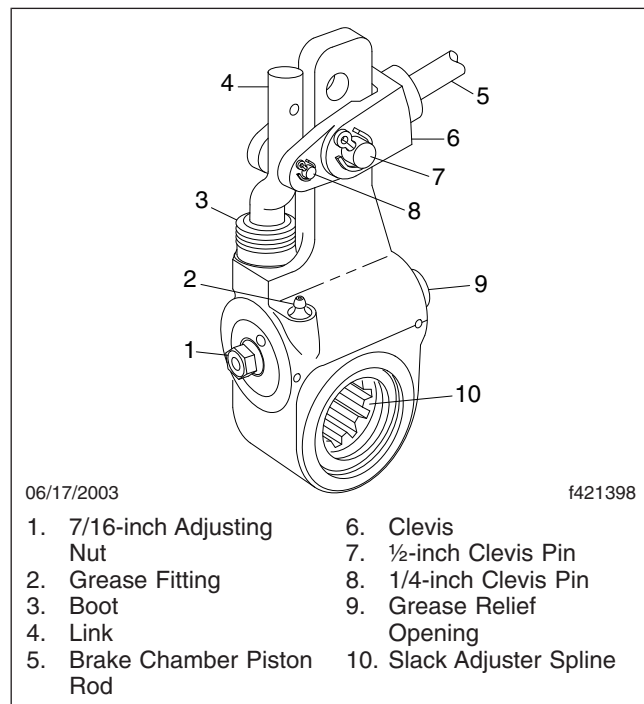
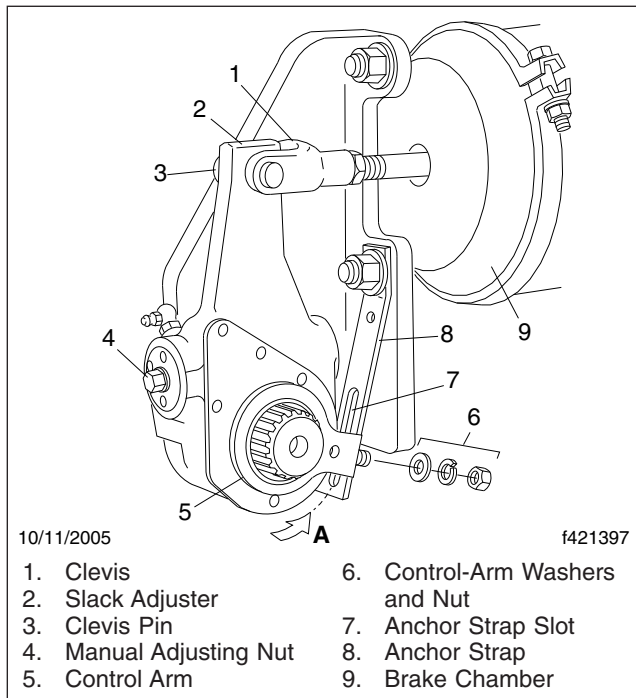
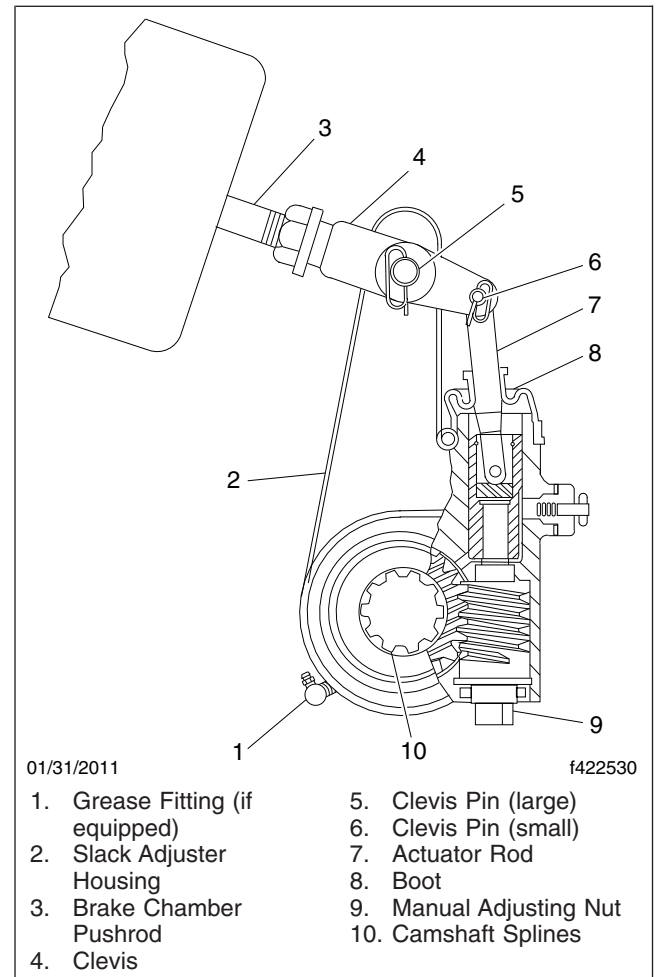

Fig. 21.1, Gunite Automatic Slack Adjuster
Fig. 21.2, Haldex Automatic Slack Adjuster
Fig. 21.3, Meritor Automatic Slack Adjuster
2. Inspect slack adjusters for signs of damage. See Fig. 21.1, Fig. 21.2, or Fig. 21.3.